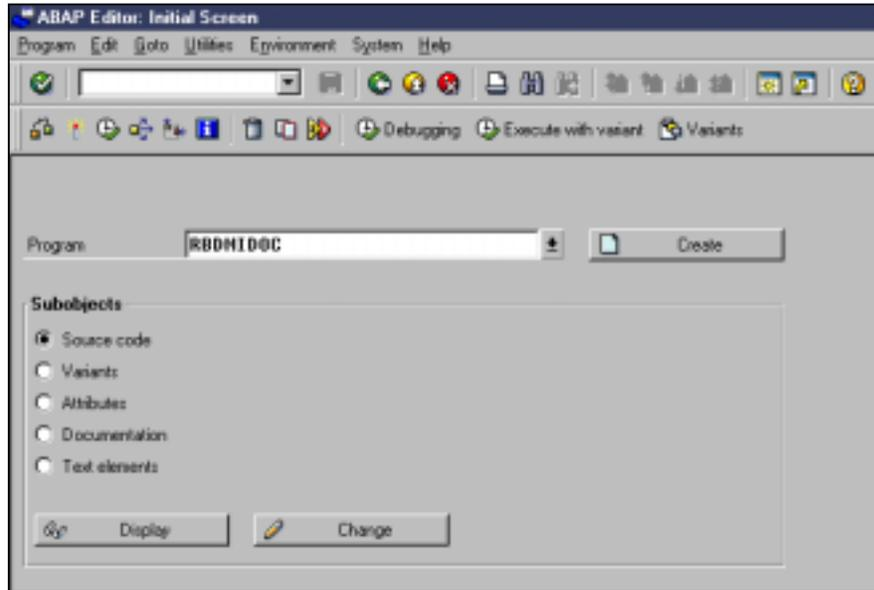

Figure 66: Running the RBDMIDOC program
1. Go to transaction SE38. Type RBDMIDOC in the program field, as shown in Figure 66.